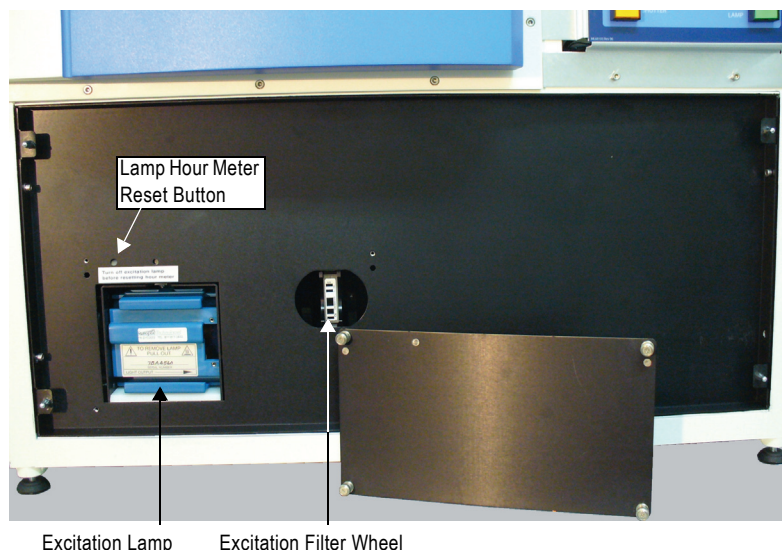

Figure 16. Maestro 2 Excitation Lamp & Filter Wheel Access Panel
The excitation filter wheel holds up to ten 25 mm diameter bandpass filters, and is located behind the access panel at the lower front of the imaging system. See Figure 16. Filter wheel locations that do not have filters installed are fitted with blanks that block the light. This prevents the unfiltered light source from burning the end of the fiber-optic light guide.
2. Remove the lower front panel and remove the lamp access panel (see Figure 16 for location) to expose the lamp cartridge.